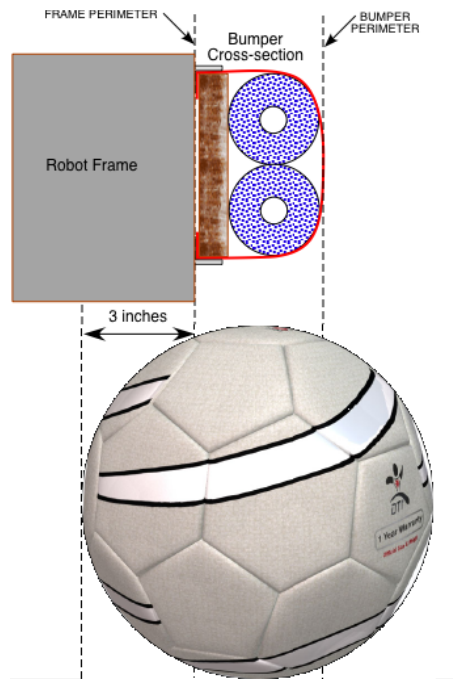

Figure 8-5
- a) the FRAME PERIMETER below the level of the BUMPER ZONE (see Figure 8-5),